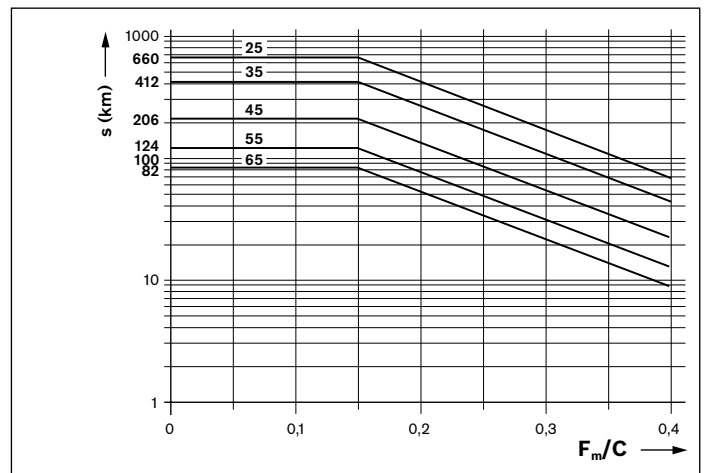

Fig. 2: Relubrication interval
- ▶ Apply the minimum quantity according to table 4 at the lube connection until the relubrication interval (figure 2) has been reached.
- ▶ Apply the minimum quantity according to table 4 for each lube connection until the relubrication interval (figure 2) has been reached. The number of pulses required for this purpose and the lubrication cycle are to be determined in a similar way as the relubrication (normal stroke).
Notes: The number of pulses that is needed for this is the integer quotient of the minimum relubrication amount according to table 4 and the selected piston distributor size according to table 5. The smallest permissible piston distributor size does not depend on the installation position. The lubrication cycle according to formula 1 is the result from the division of the relubrication interval (according to figure 2) by the determined number of pulses (cf. dimensioning example).
- s = Relubrication interval according to figure 2 (km)
- C = Dynamic load capacity (N)
- F_m/C = Dynamic equivalent load on bearing (N)